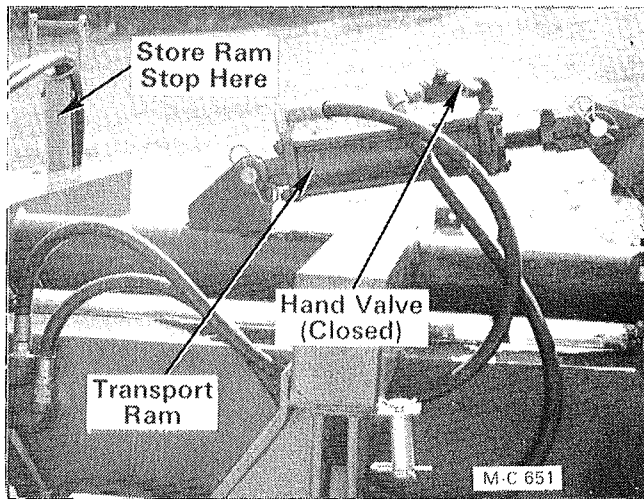

Figure 15C
- Raise the transport wheels all the way up with the transport ram and close the hand valve on the ram, see Figure 15C. Stop the tractor engine. Store the transport ram stop on the PTO shaft support.